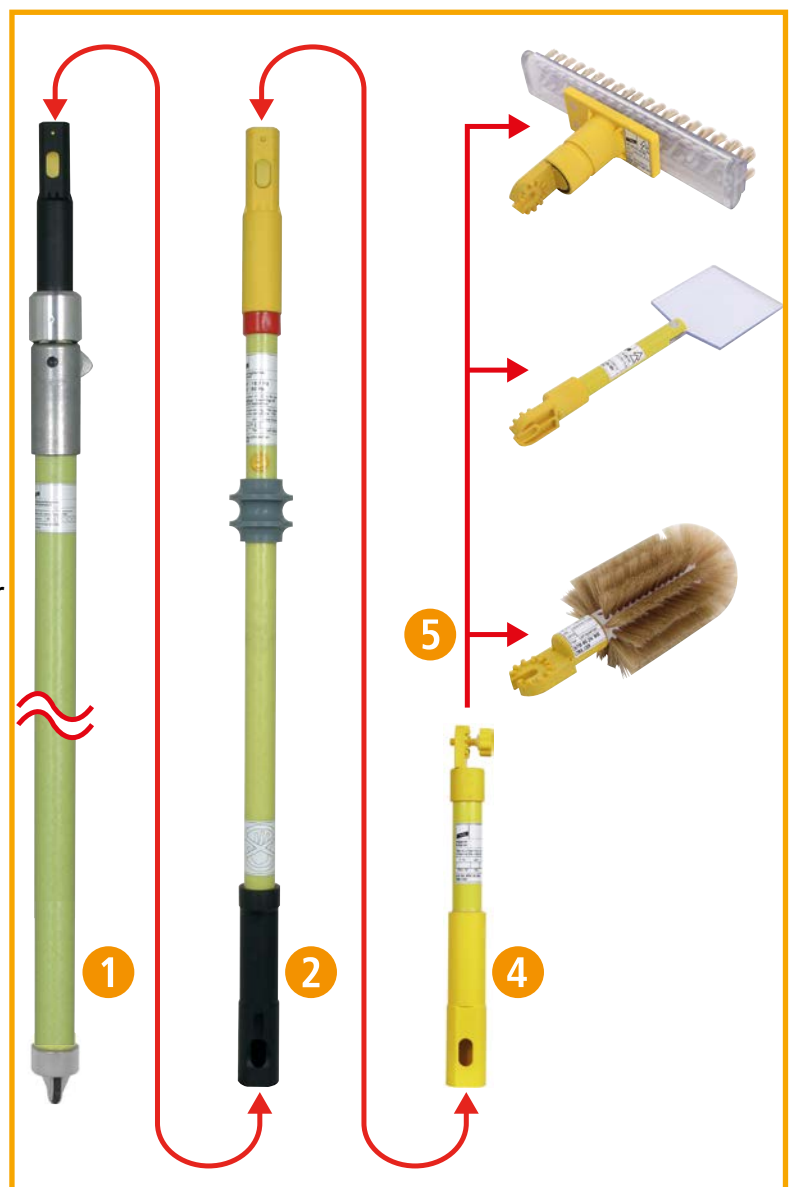

Figure 2 Optional accessories
- ➔ During use, the insulating stick must only be held by the handle (see Figure 2, page 7).
Further accessories are available specifically for signal lens cleaning (see Figure 2). The extension handle **1** and insulating stick **2** can be used with the optionally available adapter **AD ZK STK 30 360** and other operating heads (brushes and ice scraper) with a gear coupling. You must ensure that the nominal voltage and nominal frequency specified on the rating plate of the insulating stick are not exceeded during use.